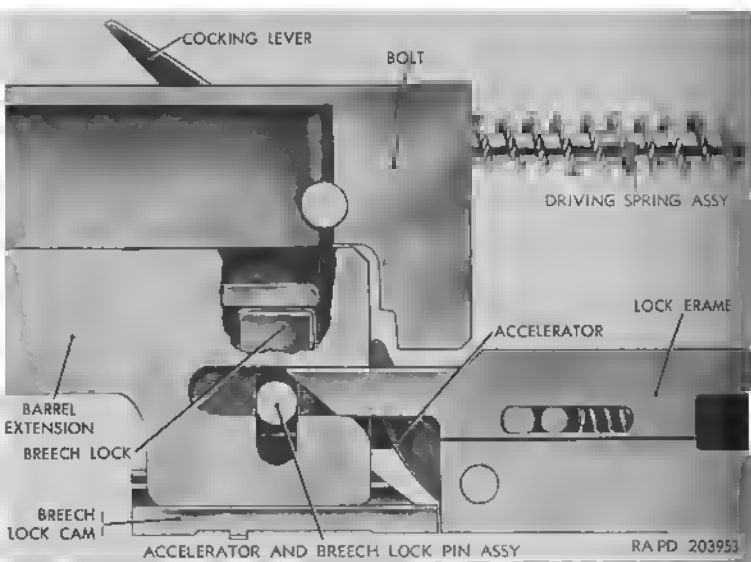
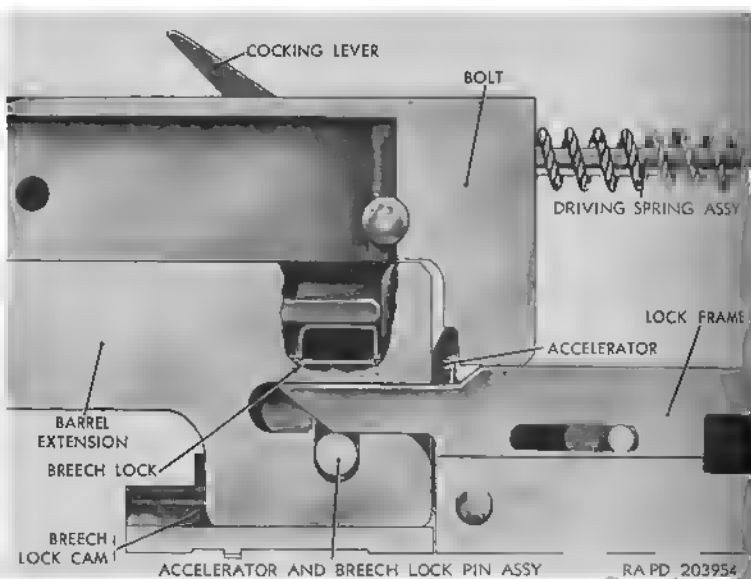

Figure 22. Bolt and barrel extension in locked position.
Figure 23. Bolt and barrel extension in unlocked position.
a. The burning gases force the recoiling parts (barrel, barrel extension, and bolt (fig. 22)) backward about five-eighths of an inch from the firing position. During the first half of this movement, the parts are locked together. When the breech lock clears the breech lock cam, it is forced down by the front projections of the lock frame acting on the accelerator and breech lock pin assembly. This action unlocks the bolt from the barrel extension (fig. 23), permitting the bolt to continue to the rear. As the barrel extension comes to the rear, the barrel plunger spring is compressed, and the rear of the barrel extension strikes the accelerator, turning it backward.